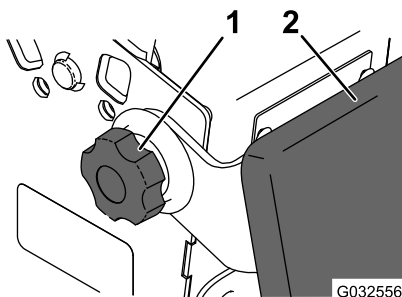

Figure 33
2. Loosen the twist knobs on each side of the machine (Figure 33).